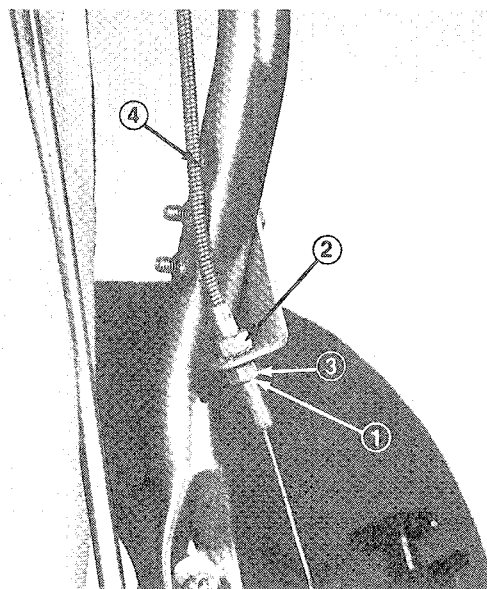

Figure 28
1. Loosen the lock nut on the bottom side of the bracket (Fig. 28).